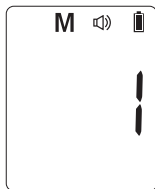

Figure 7
1. With the thermometer off, press the *Setting Button*. The letter M will appear in the upper left corner of the display. (See Figure 7)